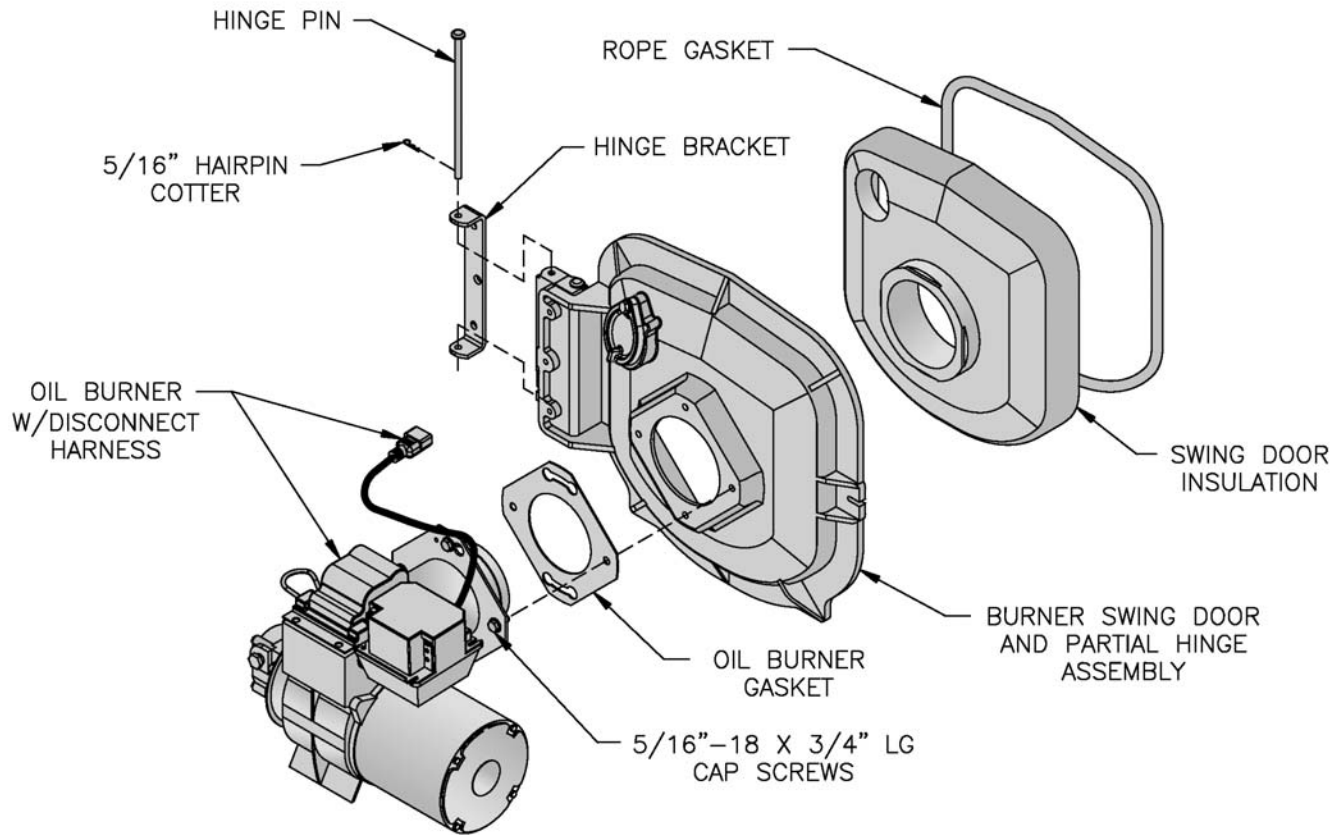

Figure 7: Oil Burner Installation
J. INSTALL OIL BURNER. (See Figure 7).